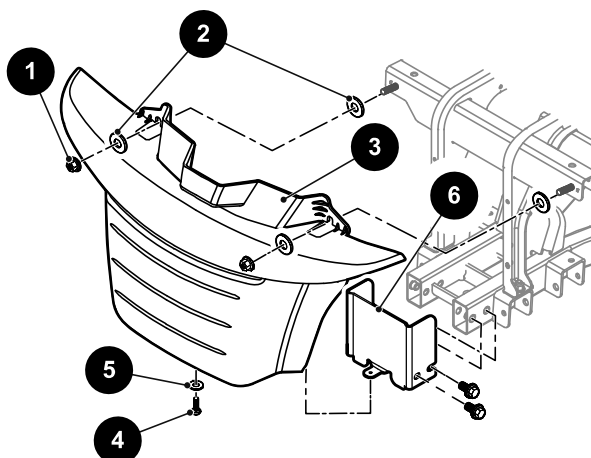

Figure 3 Front Bumper
1. Remove two hex nuts (1) and washers (2) securing the top of the bumper (3) to the front strut mounting bolts (Figure 3).
2. Remove the bolt (4) and washer (5) securing the bottom of the bumper (3) to the bumper bracket (6).
3. Pull the top of the bumper (3) forward and off of the bolts. Lift the bumper (3) upward to clear the frame channel between the front struts. Pull the lower edge of the bumper down and away from the vehicle.